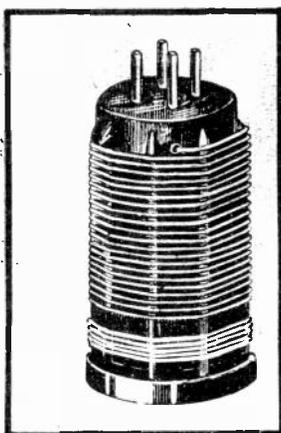

FIG. 6
A TYPICAL PLUG-IN TYPE SHORT WAVE COIL IS SHOWN YOU IN FIG. 6. NOTICE THAT THIS COIL IS WOUND ON A BAKELITE TUBING HAVING LONGITUDINAL BAKELITE RIBS ATTACHED TO IT. THE WINDING IS THEN WOUND AROUND THIS COIL FORM IN SUCH A MANNER THAT THE RIBS HOLD THE WINDING AWAY FROM THE MAIN BODY OF THE COIL FORM.
THIS METHOD OF CONSTRUCTION LIMITS THE AMOUNT OF THE COIL FORM WHICH ACTUALLY CONTACTS THE WINDING AND THIS REDUCES THE DIELECTRIC LOSSES OF THE COIL AND WHICH ARE ORDINARILY QUITE NOTICEABLE WHEN WORKING WITH THE HIGHER FREQUENCIES. ALSO NOTICE IN THE COIL OF FIG. 6 THAT THERE IS A SLIGHT AIR SPACE BETWEEN ADJACENT TURNS OF THE WINDING, SO THAT THE AD-
ALSO NOTICE THAT THE COIL FORM IN FIG. 6 HAS A STANDARD FOUR PRONG TUBE BASE ATTACHED TO IT. THE ENDS OF EACH OF THE COIL WINDINGS ARE CONNECTED TO THESE PRONGS WITHIN THE FORM, SO THAT BY PLUGGING THE COIL INTO A STANDARD FOUR PRONG (UX) TUBE SOCKET, WHOSE TERMINALS ARE PROPERLY WIRED TO THE RECEIVER CIRCUITS, WE HAVE A CONVENIENT MEANS OF INCLUDING OR REMOVING THIS PARTICULAR COIL FROM THE CIRCUIT SO THAT ANOTHER COIL CAN BE SUBSTITUTED FOR IT WHENEVER WE WISH TO TUNE OVER ANOTHER WAVE BAND.